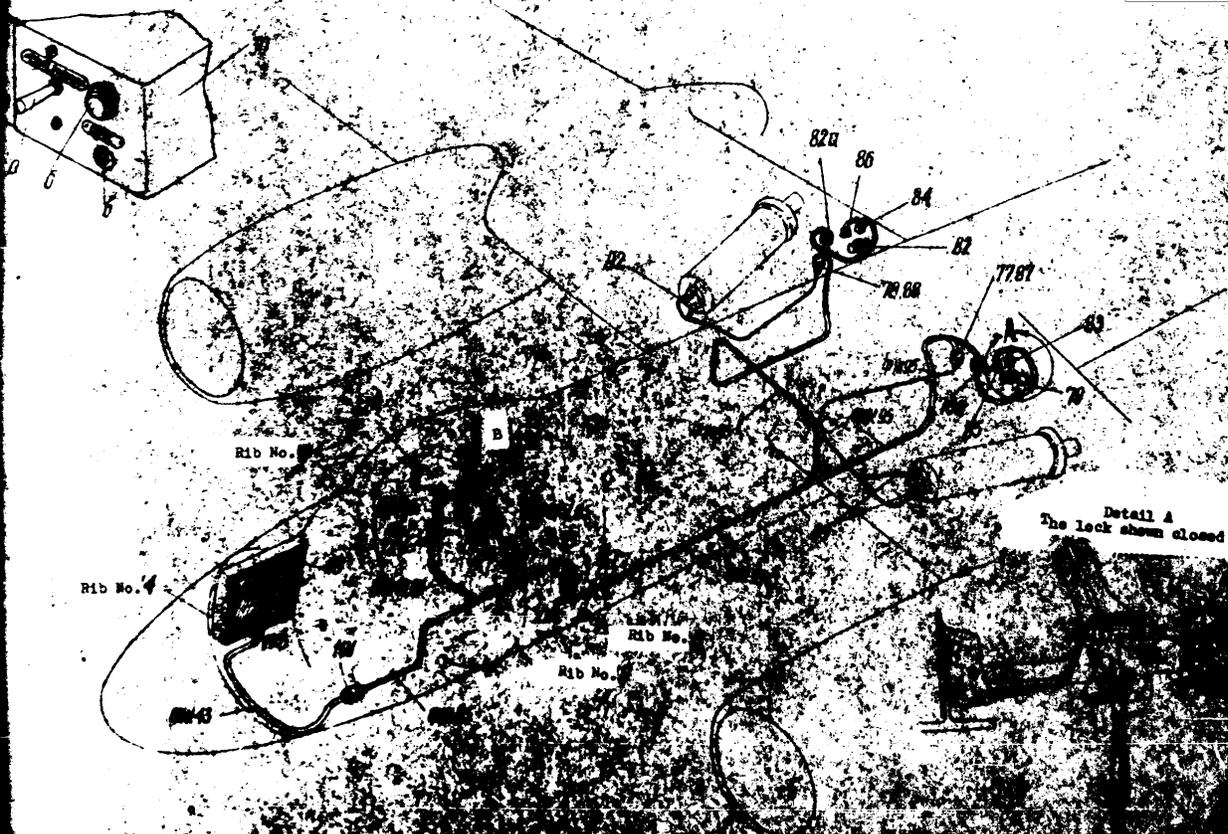

FIG. 99. Assembly diagram of the take off boost rocket control.
- the fuel meters /fig. 99 - 104/